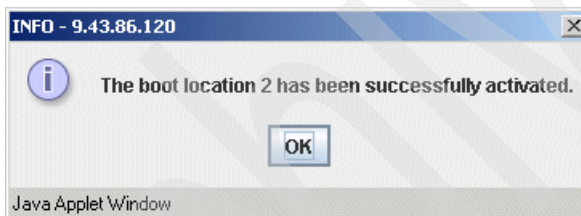

Figure 17-26 Boot image activated
6. A message opens confirming that the new image has been selected (Figure 17-26). Click **OK**.